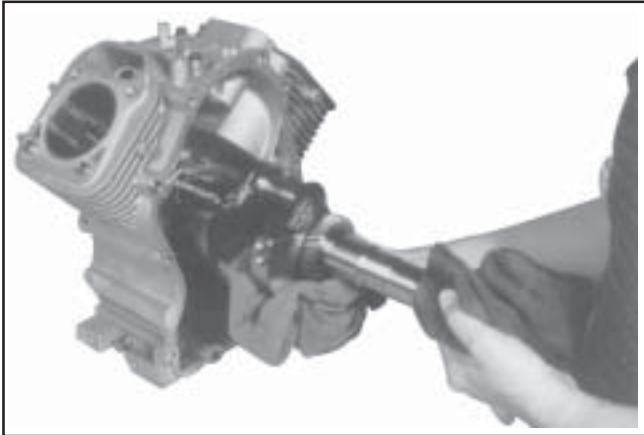

Figure 9-62. Removing Crankshaft.
1. Carefully pull the crankshaft from the crankcase. See Figure 9-62.